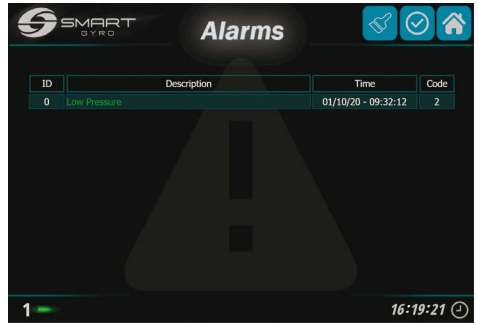

Figure 32
Alarms not present anymore in the system can be removed from the list (Figure 32), pressing the paint brush symbol icon (Figure 29, (3)).